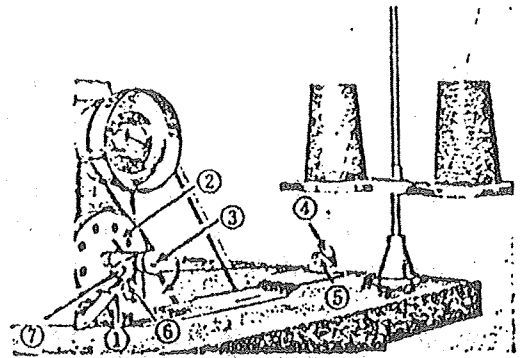

Fig. 4
1. Place the bobbin (3) on winder spindle.
2. Pass the thread through the hole (4) of the bobbin winder thread guide and through the tension discs (5) from the rear.
3. Pull the end of the thread and wind it around the empty bobbin seven or eight times from the bottom up as shown by the arrow in Fig. 4.